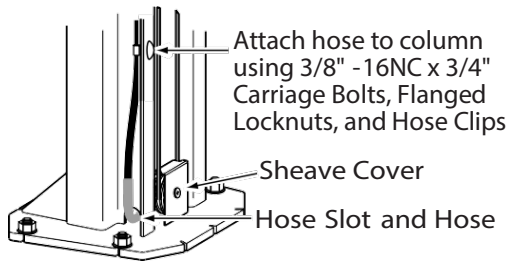

Fig. 15
F) Run cable around the lower sheave, then up and around overhead sheave and across and down to the opposite carriage, Fig. 16. Install sheave cover, Fig. 15.